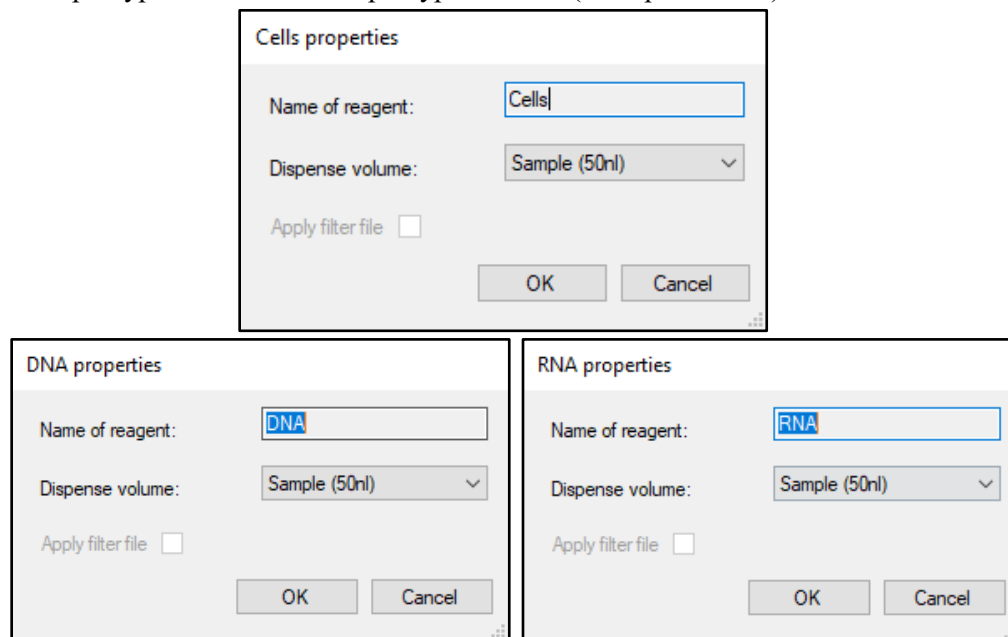

Figure 30. The three sample *properties* windows in the application editor dispense [Add dispense step] workflow.
- “Name of reagent” – Cannot be edited for the sample properties. This will display as illustrated in the screenshots of Figure 30.